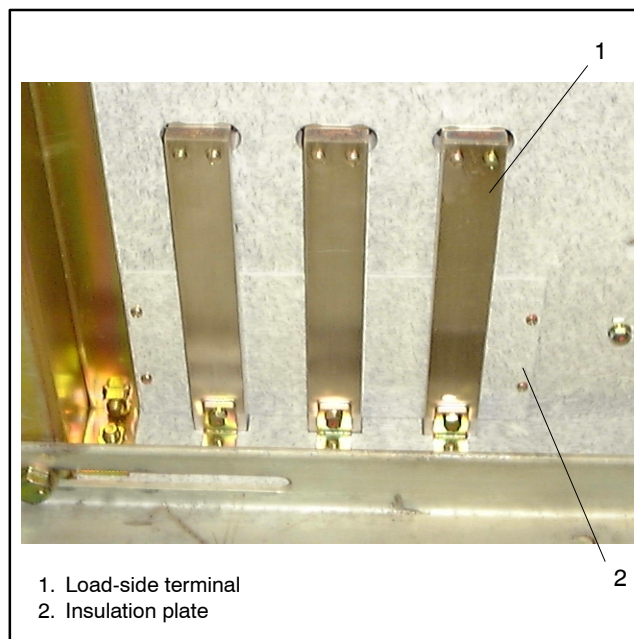

Figure 8-46 Source B Side
3. Remove the load-side terminal. See Figure 8-46.
4. Remove the insulation plate. See Figure 8-46.